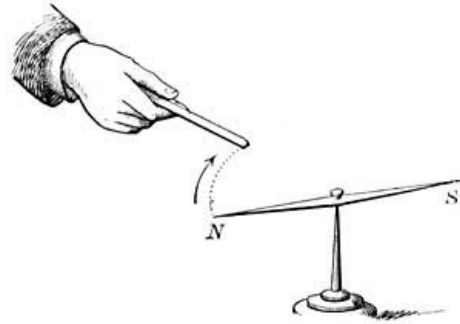

FIG. 225.—A south pole attracts a north pole.
**307. The Influence of Magnets upon Each Other.** If while our suspended magnetic needle is at rest in its characteristic north-and-south direction another magnet is brought near, the suspended magnet is turned; that is, motion is produced (Fig. 225). If the north pole of the free magnet is brought toward the south pole of the suspended magnet, the latter moves in such a way that the two poles *N* and *S* are as close together as possible. If the north pole of the free magnet is brought toward the north pole of the suspended magnet, the latter moves in such a way that the two poles *N* and *N* are as far apart as possible. In every case that can be tested, it is found that a north pole repels a north pole, and a south pole repels a south pole; but that a north